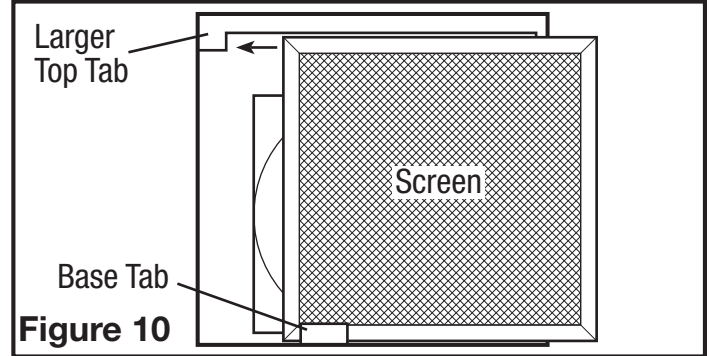

Figure 10
- If the screen is not in place, insert the screen into the tab at the base of the unit (make sure the wider side of the screen is running side to side inside the unit) (**Figure 10**).
- Slide the screen to the side with the larger top tab making sure the screen fits behind the tab (**Figure 10**).